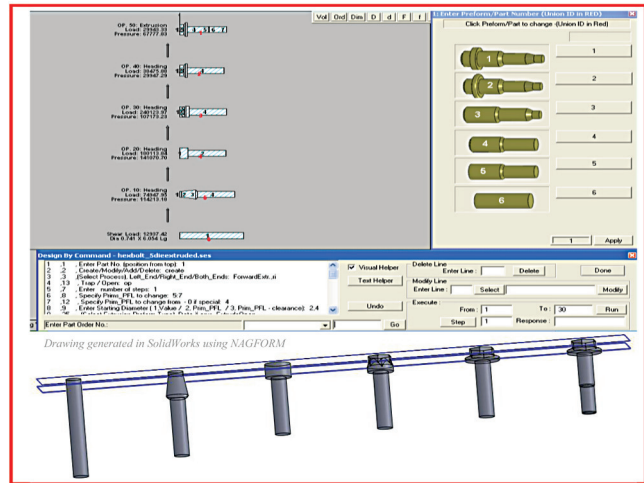

Fig. 4.
- Retention of knowledge allows users to enter every small detail of the design based on their experience. Design of similar parts include all of these details included in the DCM design (see **Figure 4**).